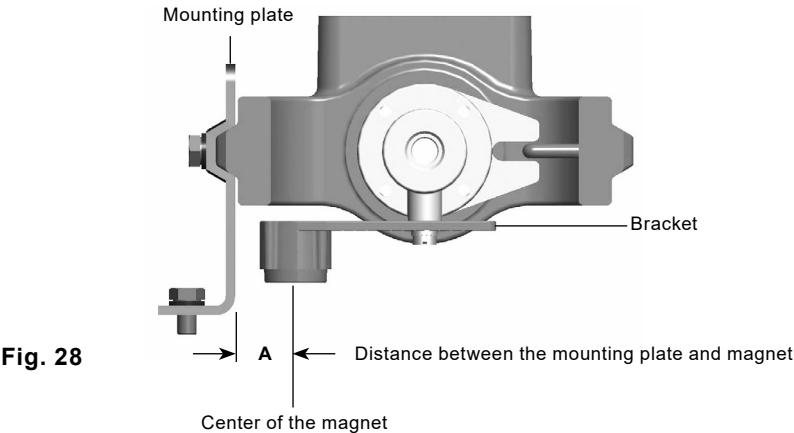

Fig. 28
- 5.2.3** If you're not using a Spirax Sarco actuator, slide the bracket till the distance 'A' between the center of the magnet and the inner side of the mounting plate is 25 mm (Figure 28).